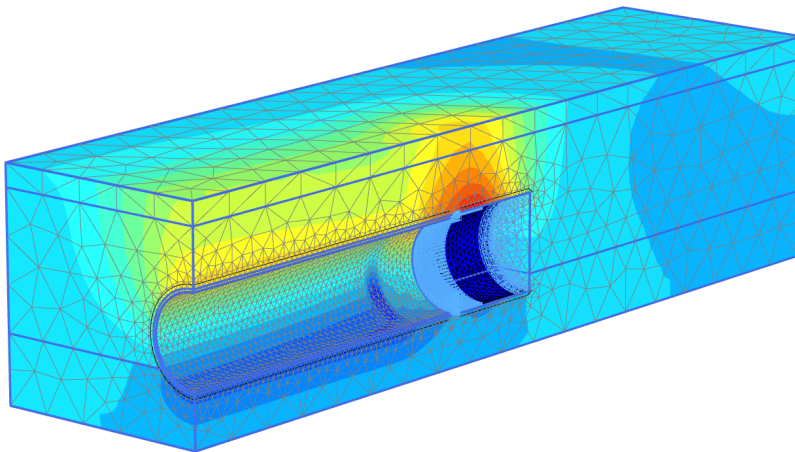

Figure 6.25 Total vertical displacements after the final phase $u_z \approx 3.1\text{ cm}$
- From the *Deformations* menu, select *Total displacements* and then u_z in order to see the total vertical displacements in the model as a shaded plot (Figure 6.25).